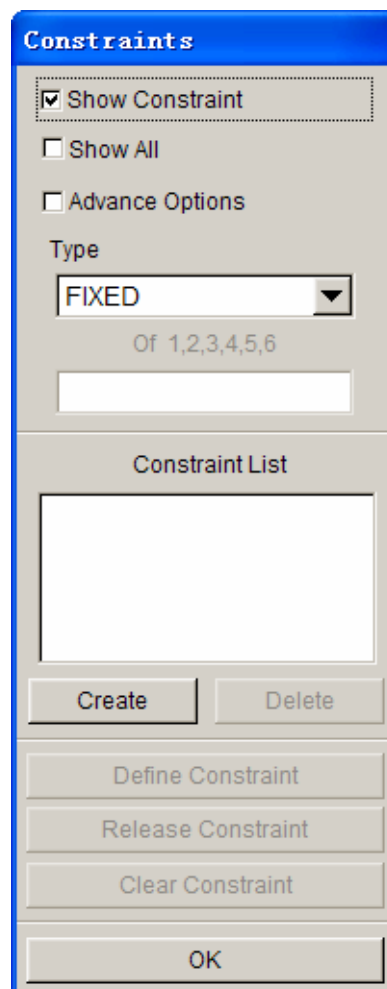

Figure 1.38: Constraints dialog box
- 1) Select Constraint button in MSTEP dialogue box to define constraints. See figure 1.38.